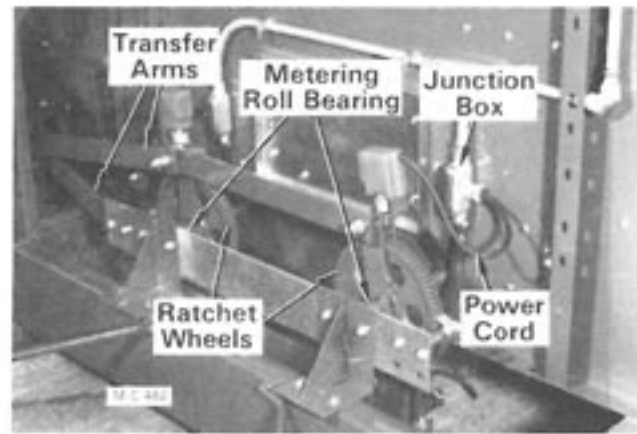

Figure 2
4. Disconnect the ratchet solenoid power cords at the conduit junction boxes see Figure 2.